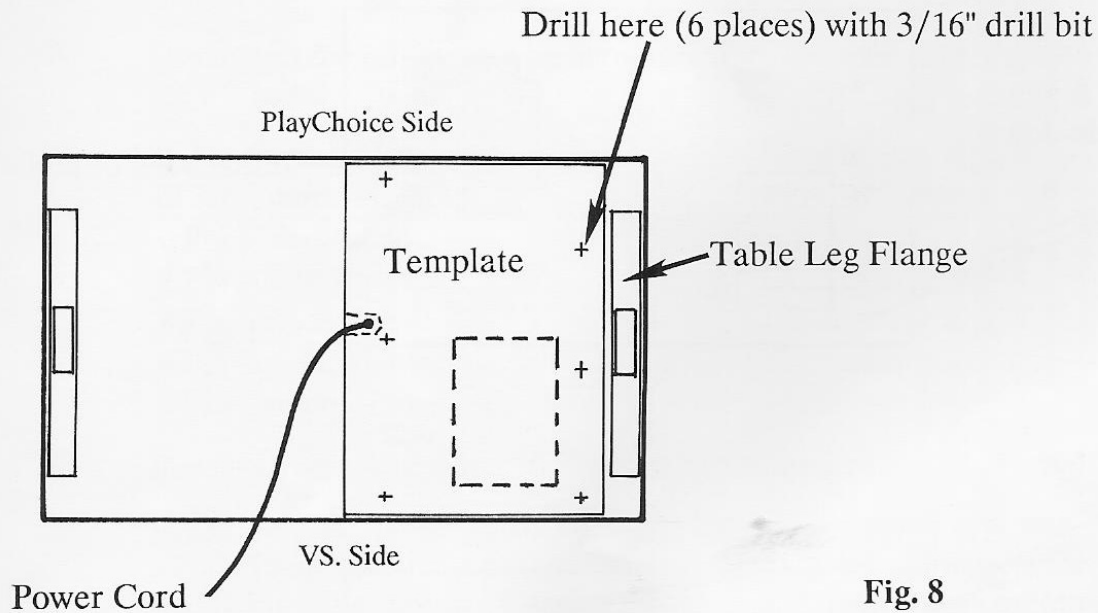

Fig. 8
- B. Place the cardboard template (part #18062), printed side out, onto the bottom of the chassis over the just-removed vent grill hole. Align the long edge of the template against the table leg mounting flange and make sure that the black dot matches up exactly with the location of the power cord grommet. (it may help to cut a notch around the dot). The two (2) short sides of the template should match up with the corners of the chassis bottom that face the players (control panels) and tape template into place (see Figure 8).
- C. Using a center punch, mark the locations of the six (6) holes on the template into the metal chassis.
- D. Drill through the chassis on the six (6) marked locations with a 3/16" drill bit. Remove the template (see Figure 8).